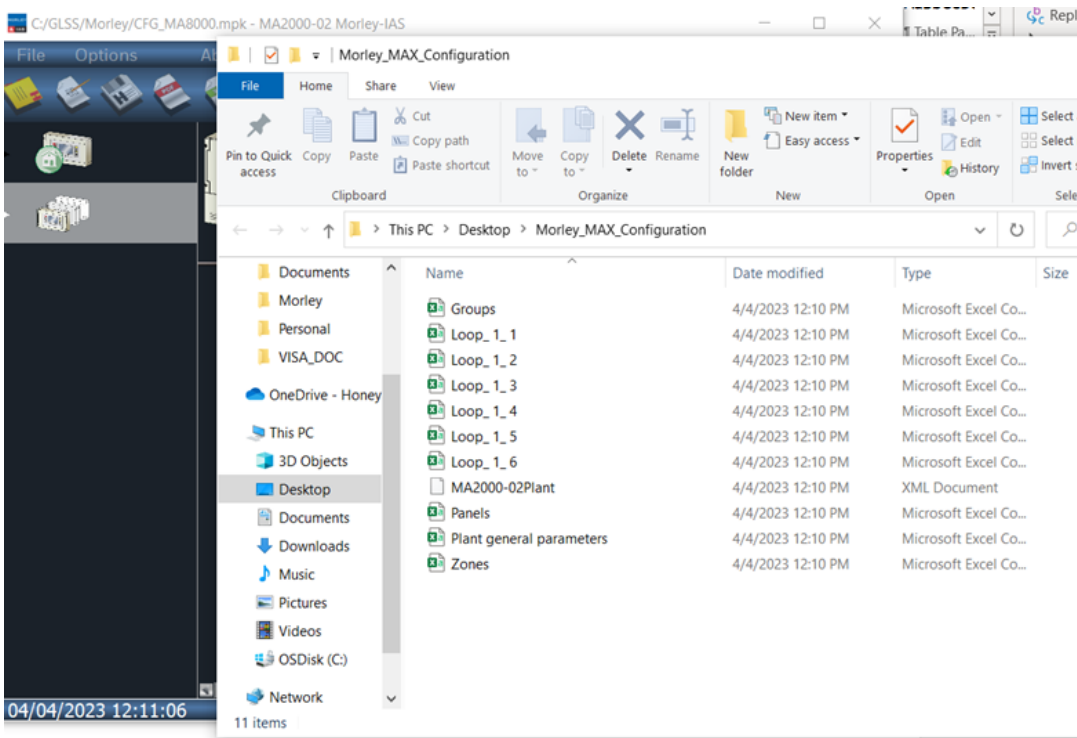

Figure C-44: Configuration File Export
- Select the required folder and export the file as shown in Figure C-44: Configuration File Export